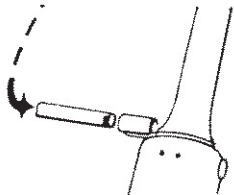

FIGURE 1
3. Screw stationary support rod into fitting on the side of the Amaz-O-Thred. (Fig 1).